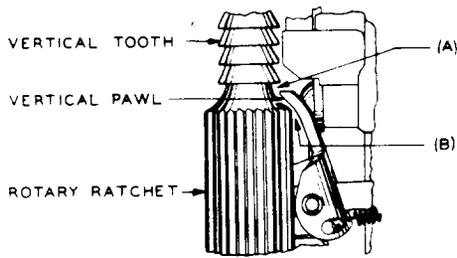

Fig. 17—Clearance Between Vertical Pawl and Vertical Teeth
**3.23 Clearance Between Vertical Pawl and Vertical Teeth:** With the vertical armature released, the vertical pawl shall clear all vertical teeth (Fig. 17, location A). On switches that are arranged to take ten vertical steps, the pawl shall also clear the top of the rotary ratchet (Fig. 17, location B) when the shaft is up ten steps. *Gauge by sight.*